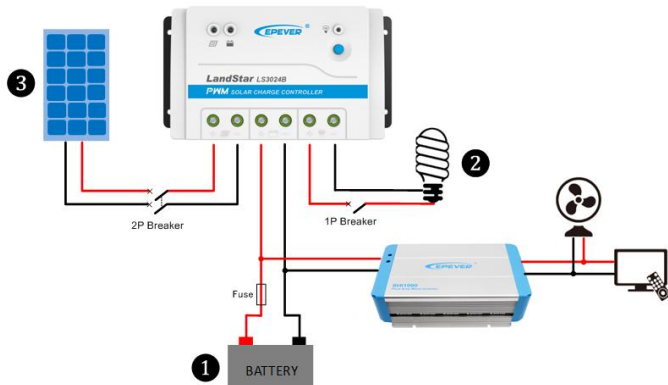

Figure 2 Connection diagram
Connect the system in the order of ① battery → ② load → ③ PV array in accordance with Figure 2"Connection diagram" and disconnect the system in the reverse order ③ ② ①.